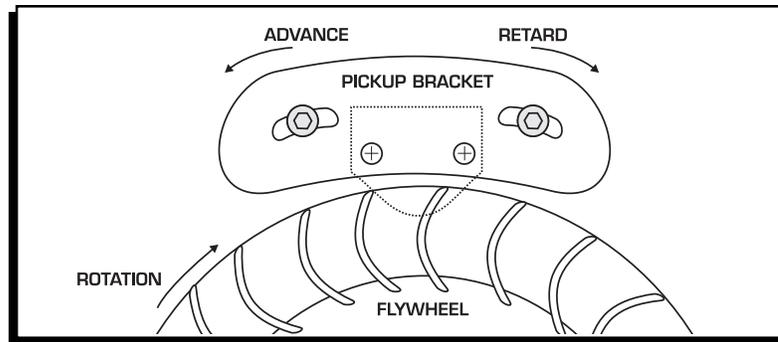

Figure 13 Adjusting the Timing on a Briggs and Stratton.
1. Adjust the timing by moving the trigger pickup. Moving the pickup clockwise, or forward, retards the timing. Moving it backwards advances the timing (Figure 13).